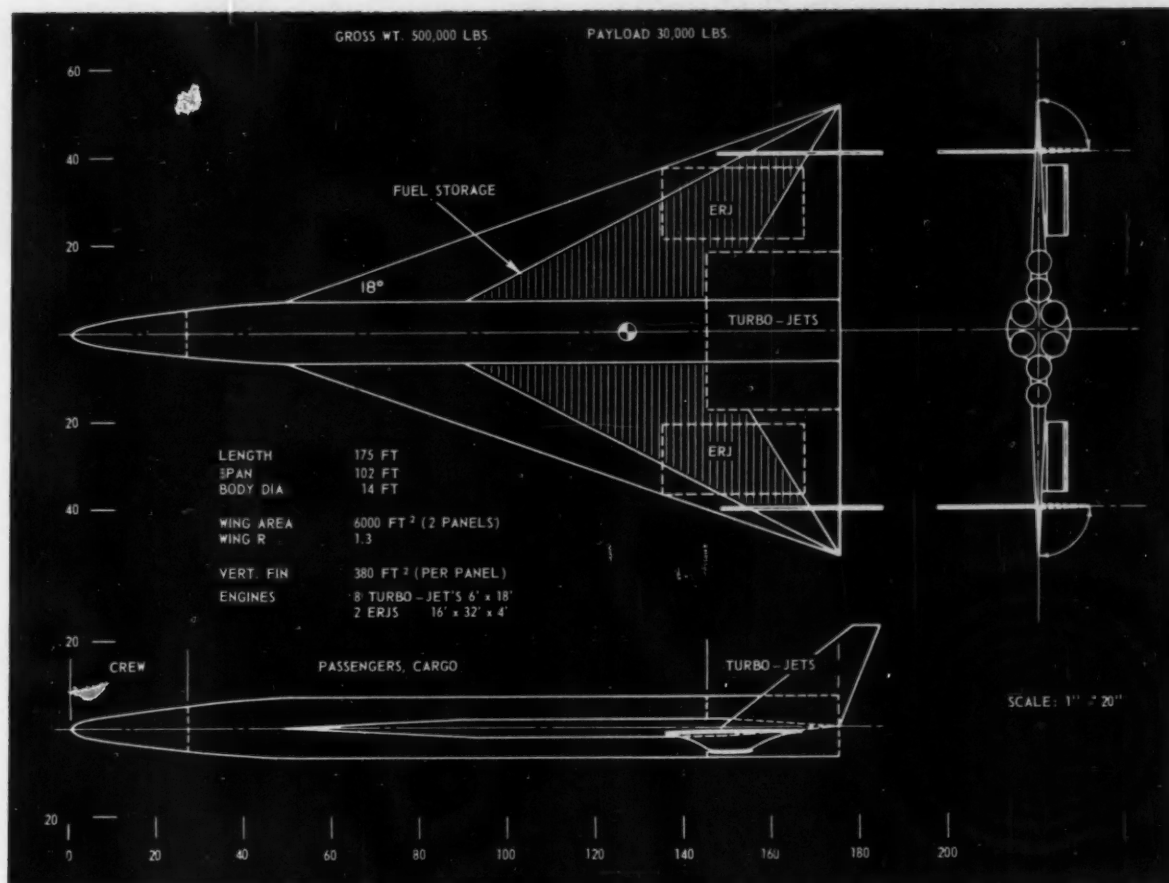

Fig. 1 — Hypersonic transport might have this basic configuration.
**I**F YOU CAN'T WAIT to see what the second generation of faster-than-sound transports will look like, glance at Fig. 1. Such an aircraft, a Mach 7 design, may well be the focus of attention once the Mach 2-3 transport becomes operational.